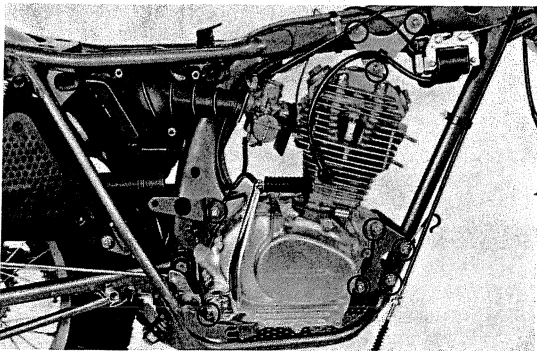

Fig. 28 O = Engine hanger bolts
12) Remove the nuts from the engine hanger bolts. Lift the rear of the engine just enough to remove load from the hanger bolts; pull off the bolts. (Fig. 28)